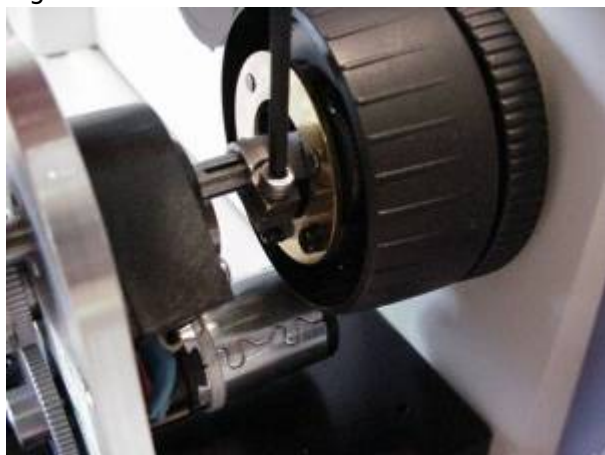

Figure 8 Tighten the clamp on the fine focus shaft
- Rotate the drive so that the tab on the bottom of the adjustment bar fits into the grove on the baseplate. Install, but do not completely tighten the vertical adjustment screw (figure # 9) to hold the drive in place. Please Note the baseplate may need to be moved to properly align the adjustment bar. When the drive is properly aligned use the 7/64" Allen wrench to securely tighten the drive shaft clamp as shown in figure 8.